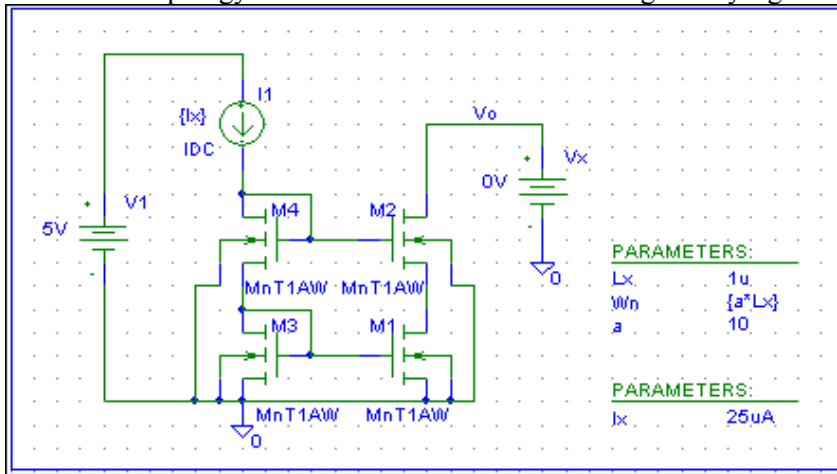
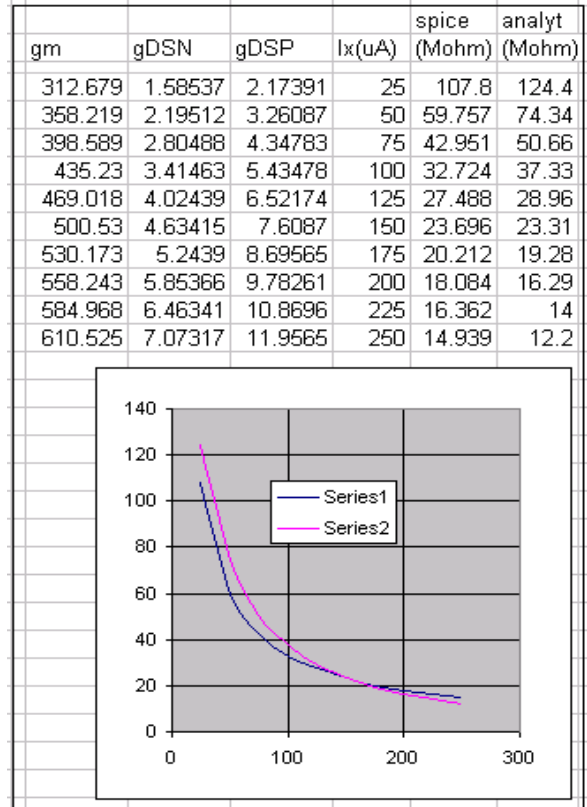
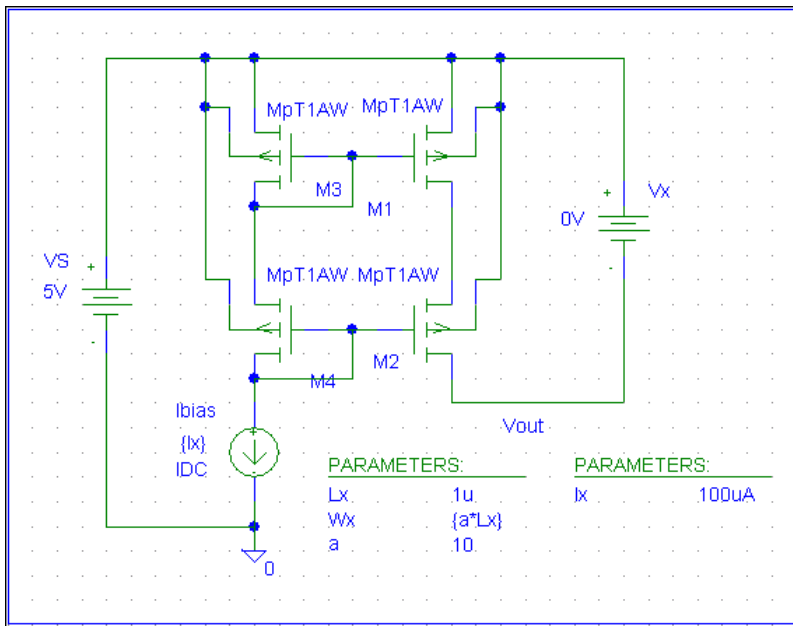

Figure ES-4.1: nMOS cascode current mirror.
Figure ES-4.3: Comparisons: pSPICE R_{out} vs analytical R_{out}
Figure ES-4.4: Cascode current mirror, pMOS version
ES-4 Another one of the basic forms for analog IC constructs is the high-performance cascode current mirror. The nMOS topology for the cascode current mirror is given by figure ES-4.1
The principal problem of dealing with high-performance circuits, as represented by figure ES-4.1 is that it will push the limits of your simulation software, and most likely you will have to readjust the numerical analysis iteration parameters. For pSPICE, the key numerical settings are located under the **Analysis > Setup > Options** menu. And the most likely setting that will need to be adjusted is the RELTOL (relative tolerance) setting. For best results, you should probably choose something a few orders of magnitude smaller than the default setting .001, such as RELTOL = 1.0n. But the smaller the tolerance (usually) the slower the iteration.
Now import your pSPICE data for $R_{out}(max)$ vs I_x (figure ES-4.2b) into the (Excel) spreadsheet and compare to the analytical results of using equations (ES-4.2a) and (ES-4.2b) with equation (ES-4.1). Results should be comparable, as represented by figure ES-4.3. A little timesaving can be achieved by making use of the same spreadsheet as was used for exercise ES-3 (which determined g_{DS} and g_m). You should save the “new” file under a different name so as to not lose the previous information.
- (a) Using this discussion as a template repeat this analysis but for MOSIS process T77Z. You should have three figures, which you should label as *your* figures ES-4.1, ES-4.2, ES-4.3. The template indicates all of the necessary constructs. The execution does rely on you having accomplished an expertise with the pSPICE and Excel utilities through the previous exercises. Your end result (figure ES-4.3) should be fairly good. If it is not, make a snake check. This ending figure will be the focus of the review process.
- (b) Repeat part (a) but for the circuit of figure ES-4.4 (pMOS version of figure ES-4.1). Change figure numbers appropriately.